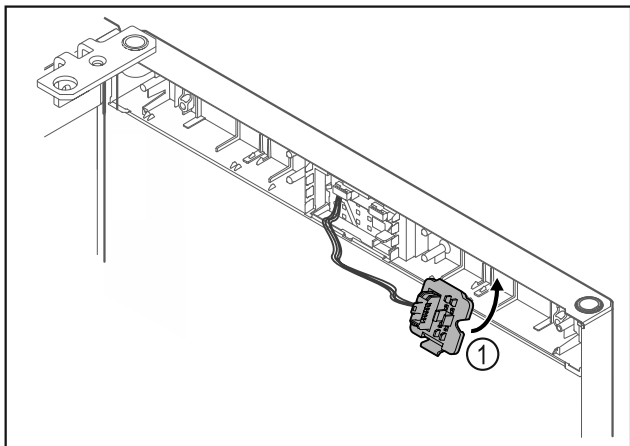

Fig. 25
- ▶ Snap in the plug holder Fig. 25 (1) on the opposite side.